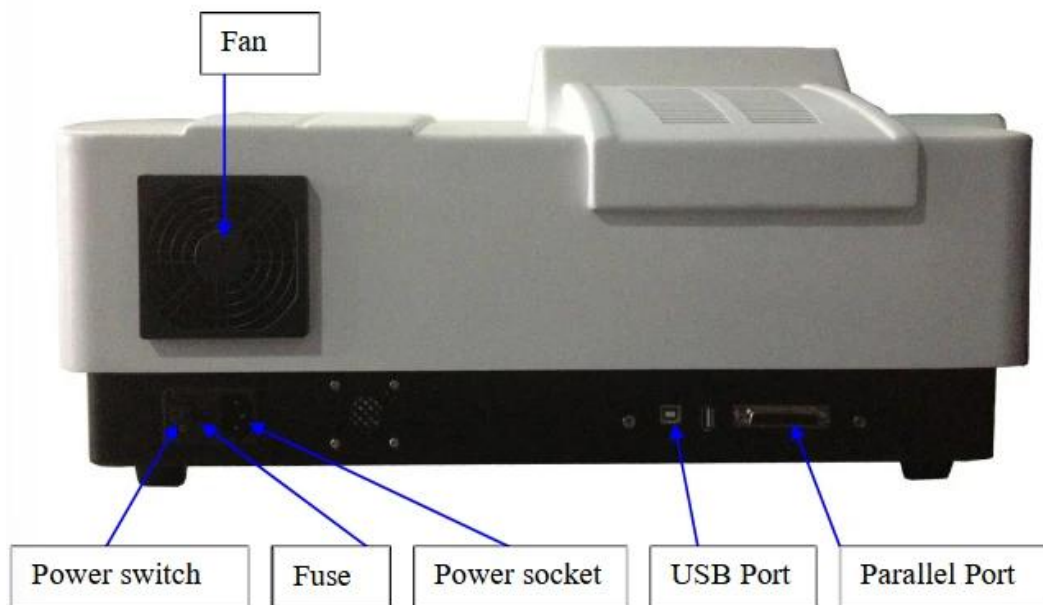

Figure 1
Turn on spectrophotometer by pressing the Power Switch (IO)(see Fig1). The instrument starts to initiate and the steps are as below: